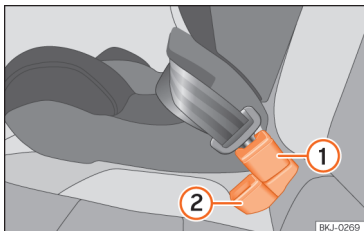

Fig. 30 Position of the belt buckle on the rear seat
»» **Fig. 30 ①** behind the side seat's belt buckle »» **Fig. 30 ②**.
- Plug the middle seat's seat belt into the middle seat's belt buckle »» **Fig. 30 ①** and make sure it clicks in place.
- For seat belts to be correctly fitted, the buckles must not be twisted »» **Fig. 30**.